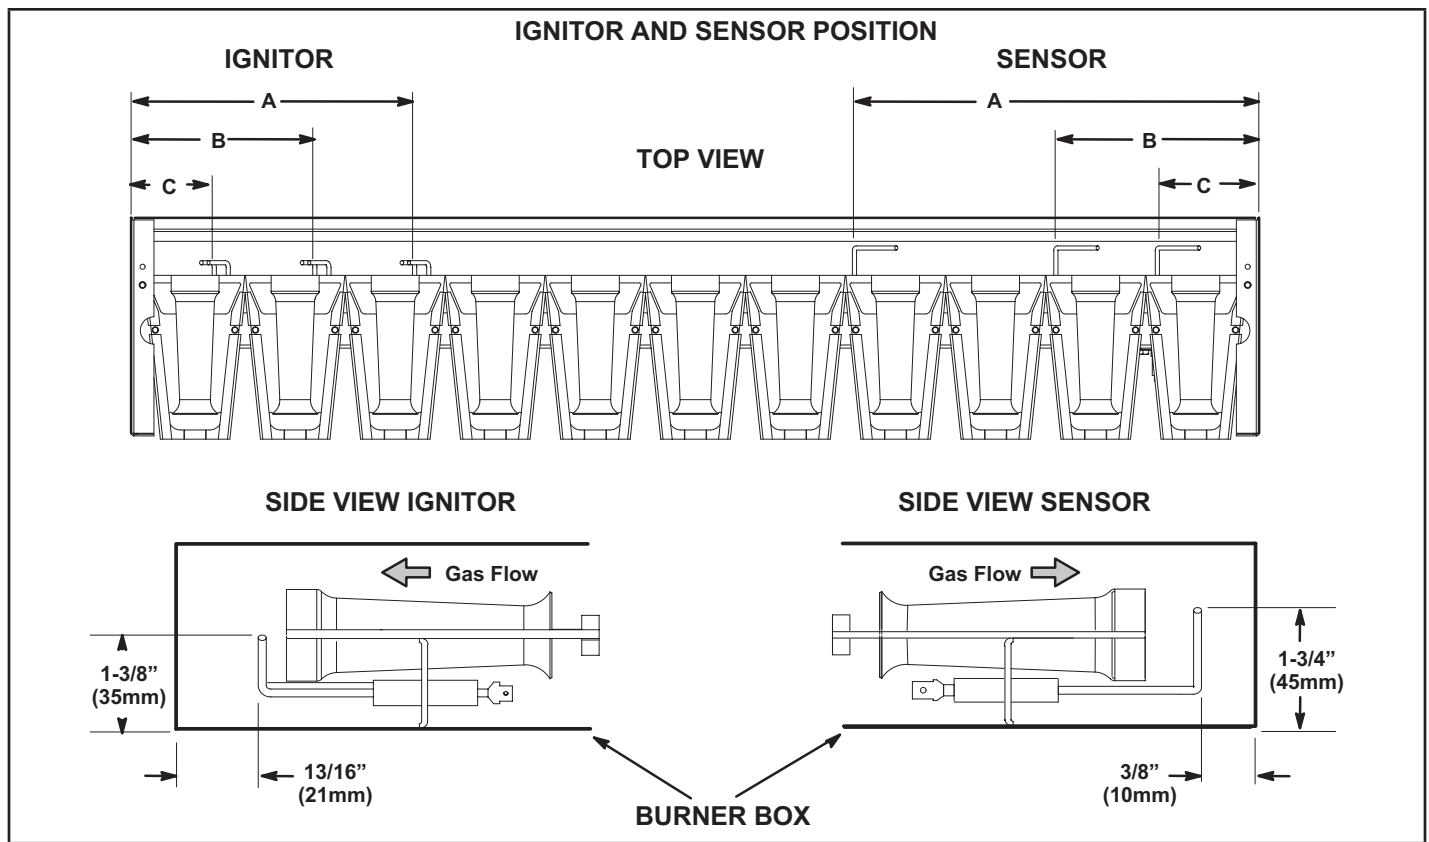

FIGURE 27
- 5 - Check the alignment of the ignitor and the sensor as shown in figure 27 and table 25.